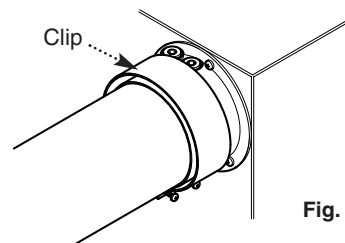

Fig. 27
8. Position the rubber seal equally over the joint between the air duct and adaptor. Align the clip with the seal and tighten the screws (Fig. 27).